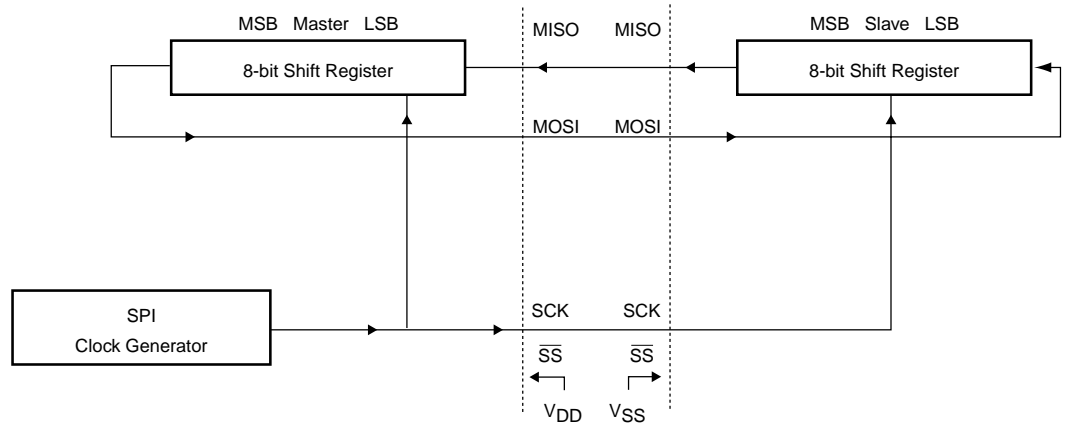

Fig 16. SPI master-slave interconnection.
The serial peripheral interface (SPI) allows high-speed synchronous data transfer between the P89V51RD2 and peripheral devices or between several P89V51RD2 devices. Figure 16 shows the correspondence between master and slave SPI devices. The SCK pin is the clock output and input for the master and slave modes, respectively. The SPI clock generator will start following a write to the master devices SPI data register. The written data is then shifted out of the MOSI pin on the master device into the MOSI pin of the slave device. Following a complete transmission of one byte of data, the SPI clock generator is stopped and the SPIF flag is set. An SPI interrupt request will be generated if the SPI Interrupt Enable bit (SPIE) and the Serial Port Interrupt Enable bit (ES) are both set.